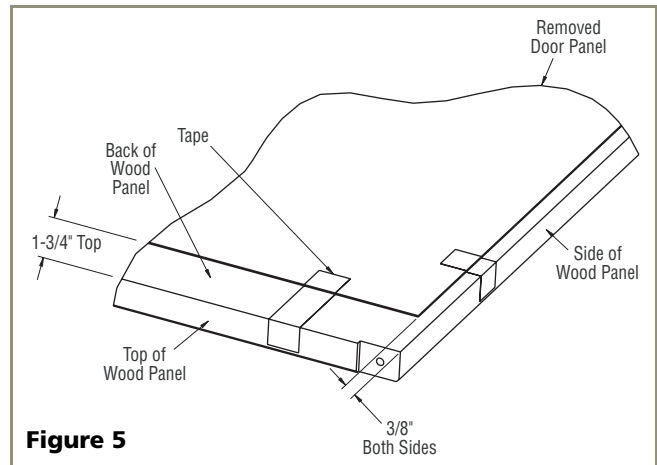
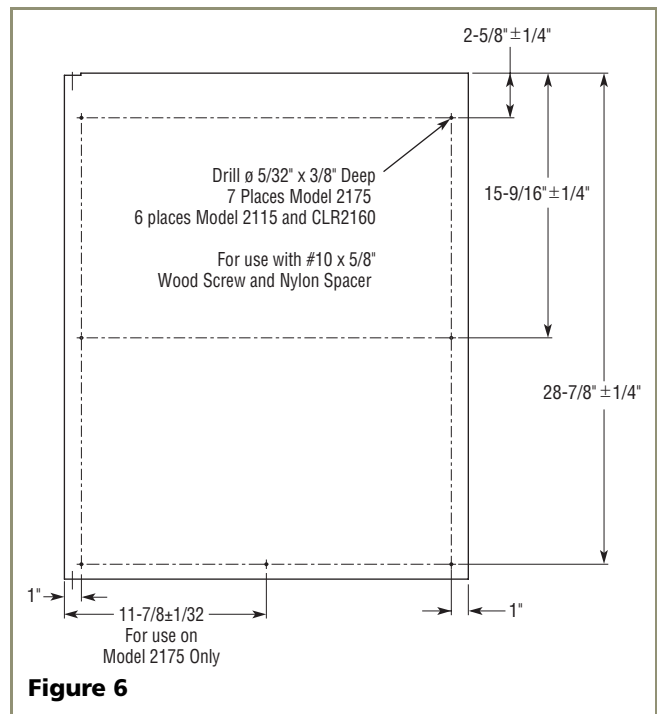

Figure 5
Figure 6
1. Place and tape the existing door panel on the back of the overlay panel (see **Figure 5**) and drill holes through both panels according to **Figure 6**. Remove tape adjoining the panels and enlarge the six holes in the steel (black/white vinyl color) panel using a 0.201" (#7) drill.
Note: If door is adjusted correctly, but panel is not square with the adjacent cabinets, slight adjustments can be made by drilling the holes in the vinyl coated steel panel slightly oversized. See **Figure 6** on **Page 3**.